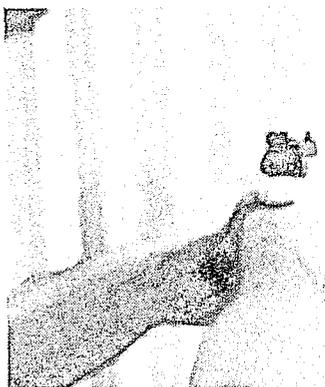

Figure 6-11
(See Figure 6-11)
c. Keep the wrist straight and locked. (See Figures 6-11 and 6-12)